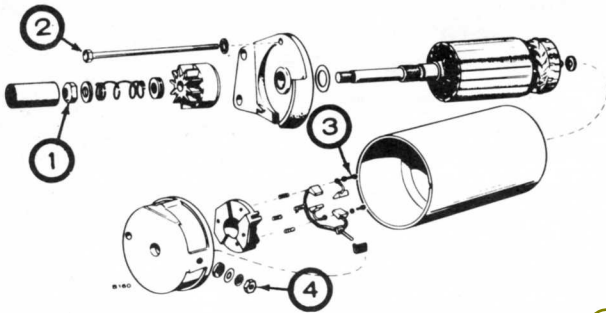

FIGURE 47. STARTER DISASSEMBLY
2. Torque bolts (Figure 47, item 3) to a value of 3 to 3-1/2 ft-lbs (4 to 5 N•m).
3. Torque nut (Figure 47, item 4) to a value of 4 to 5 ft-lbs (5 to 7 N•m).
5. Torque stop nut (Figure 47, item 1) to a value of 20 to 25 ft-lbs (27 to 34 N•m). Hold armature in a vise.
6. Torque thru-bolts (Figure 47, item 2) to a value of 4.5 to 6 ft-lbs (6 to 8 N•m).